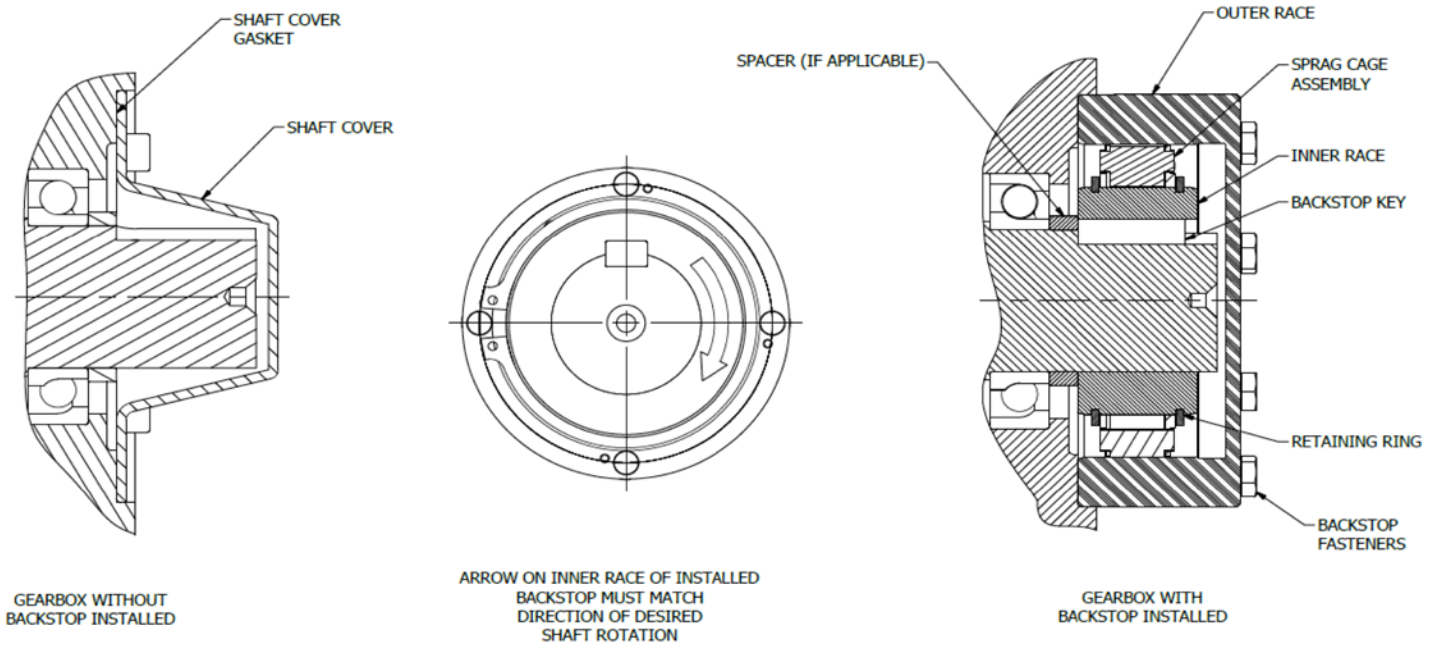

FIGURE 1 - BACKSTOP ASSEMBLY
1. Remove backstop shaft cover and gasket (Figure 1). These parts will not be reused. This cover is directly opposite the extended end of the input shaft.